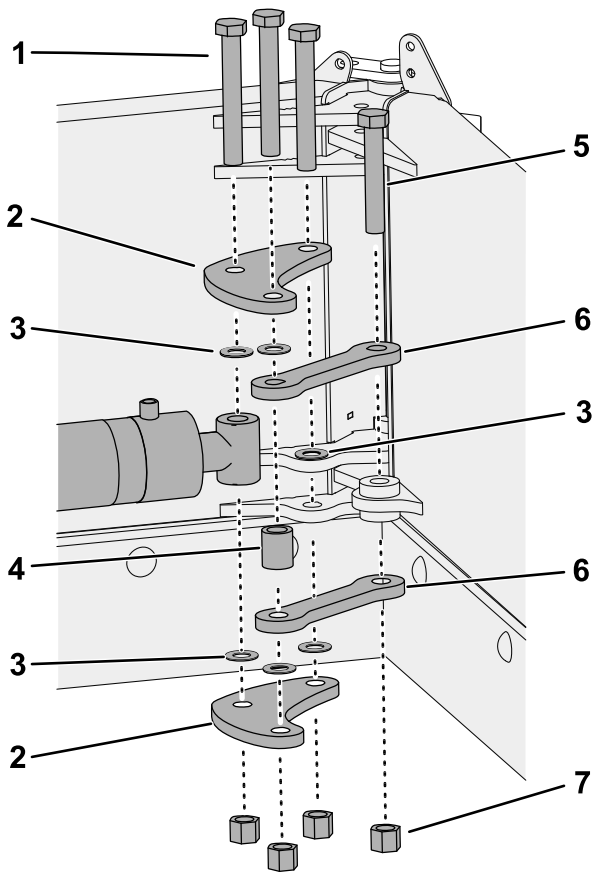

**Figure 11**
- Loosely attach the body end side of the 2 wing hydraulic cylinders to the center blade using 1 bolt (3/4 x 4-1/2 inches) and 1 locknut (3/4 inch) as shown in Figure 11.